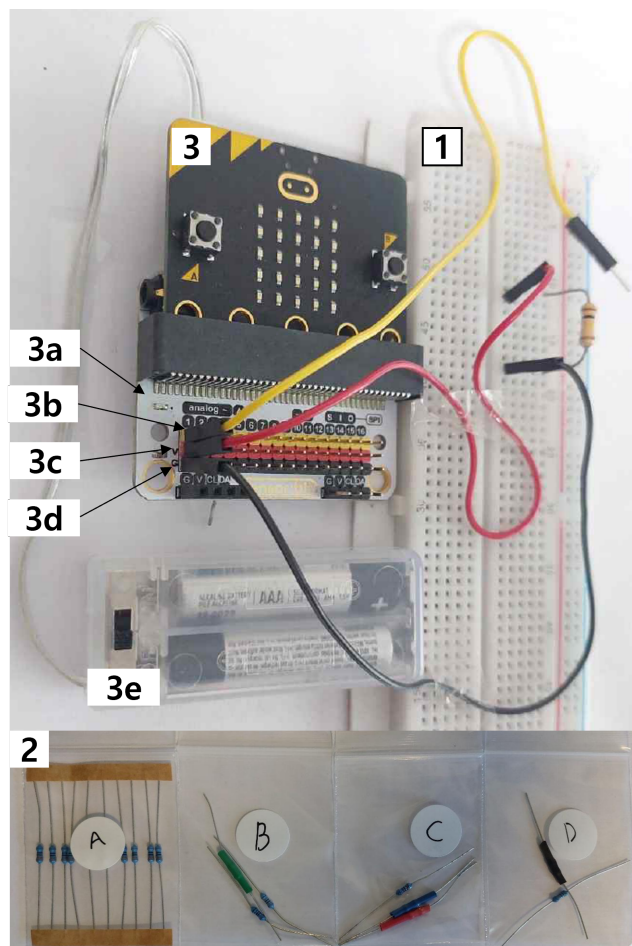

Fig.1
1. Wiring Guide (Refer to Fig. 1)
- 3b: Top Jumper Wire (top pin of expansion shield in Fig.1). Touch this to the specific node where you want to measure the voltage.
- 3c: Middle Jumper Wire (middle pin of expansion shield in Fig. 1). Connect to the circuit's power input (V_c,+) node.
- 3d: Bottom Jumper Wire (bottom pin of expansion shield in Fig. 1). Connect to the circuit's ground (GND, -) reference node.
- System Check: Connect the circuit as in Fig. 1. When you touch the Top wire to a point near the GND node, the reading should be near 0. When you touch the Top wire to the Middle wire's connection point (Vc), the reading should be near 1023. Verifying both points ensures that the measurement system's zero reference and full scale are correctly calibrated. If the measured values differ significantly from theoretical predictions, it is likely a wiring error or poor contact rather than a hardware limitation.